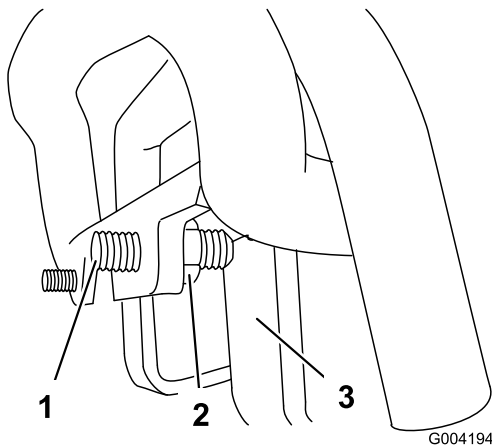

Figure 53
- If the traction unit veers to the **left**, loosen the **right** jam nut and adjust the tracking set screw on the front of the traction control (Figure 53).
- If the traction unit veers to the **right**, loosen the **left** jam nut and adjust the tracking set screw on the front of the traction control (Figure 53).